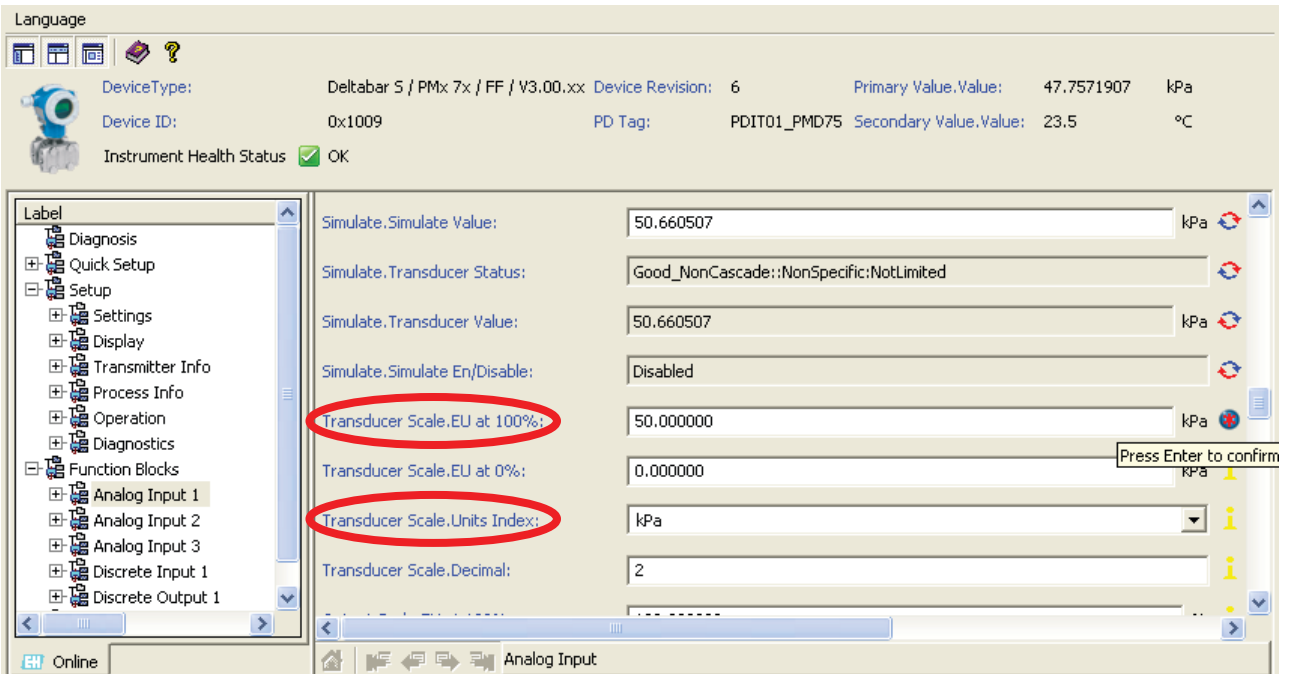
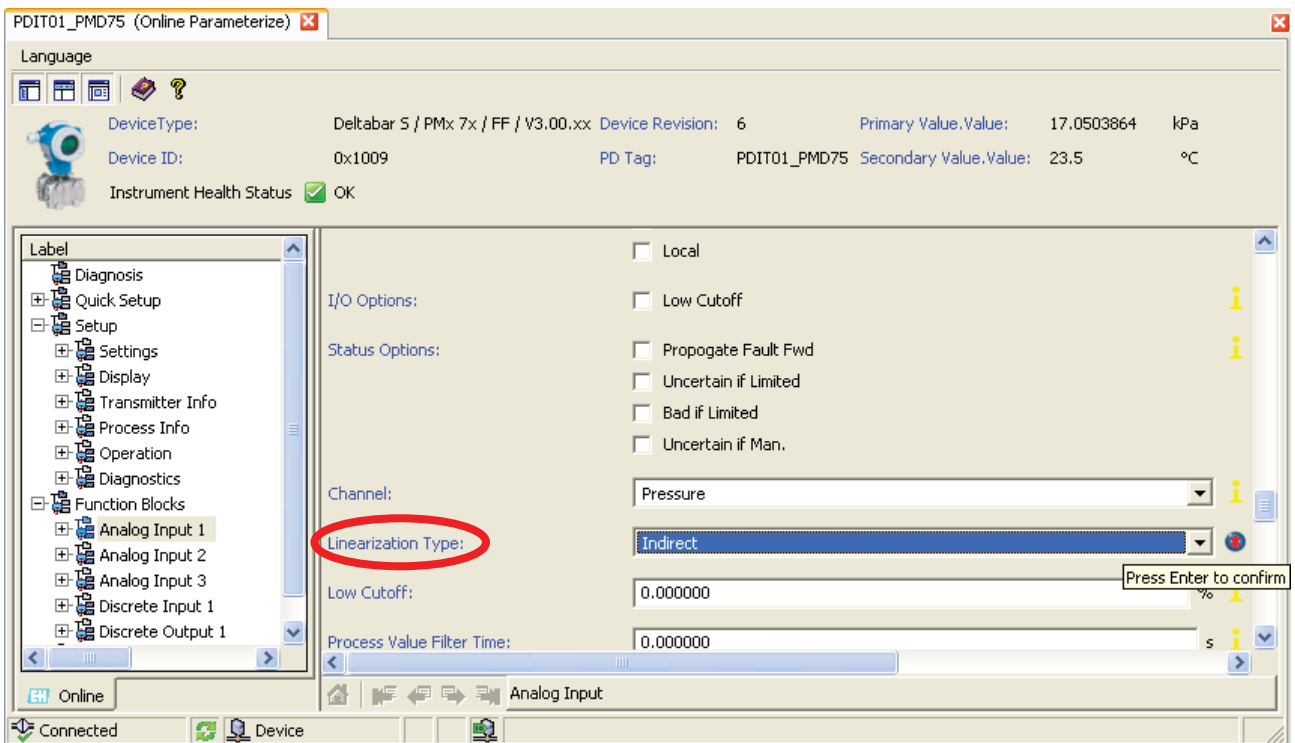

Figure 2-17. Transducer Scale.
Figure 2-18. LinearizationType: Indirect.
26. Go to *Function Blocks* ► *Analog Input 1* and make the changes illustrated in Figure 2-17 and Figure 2-18: